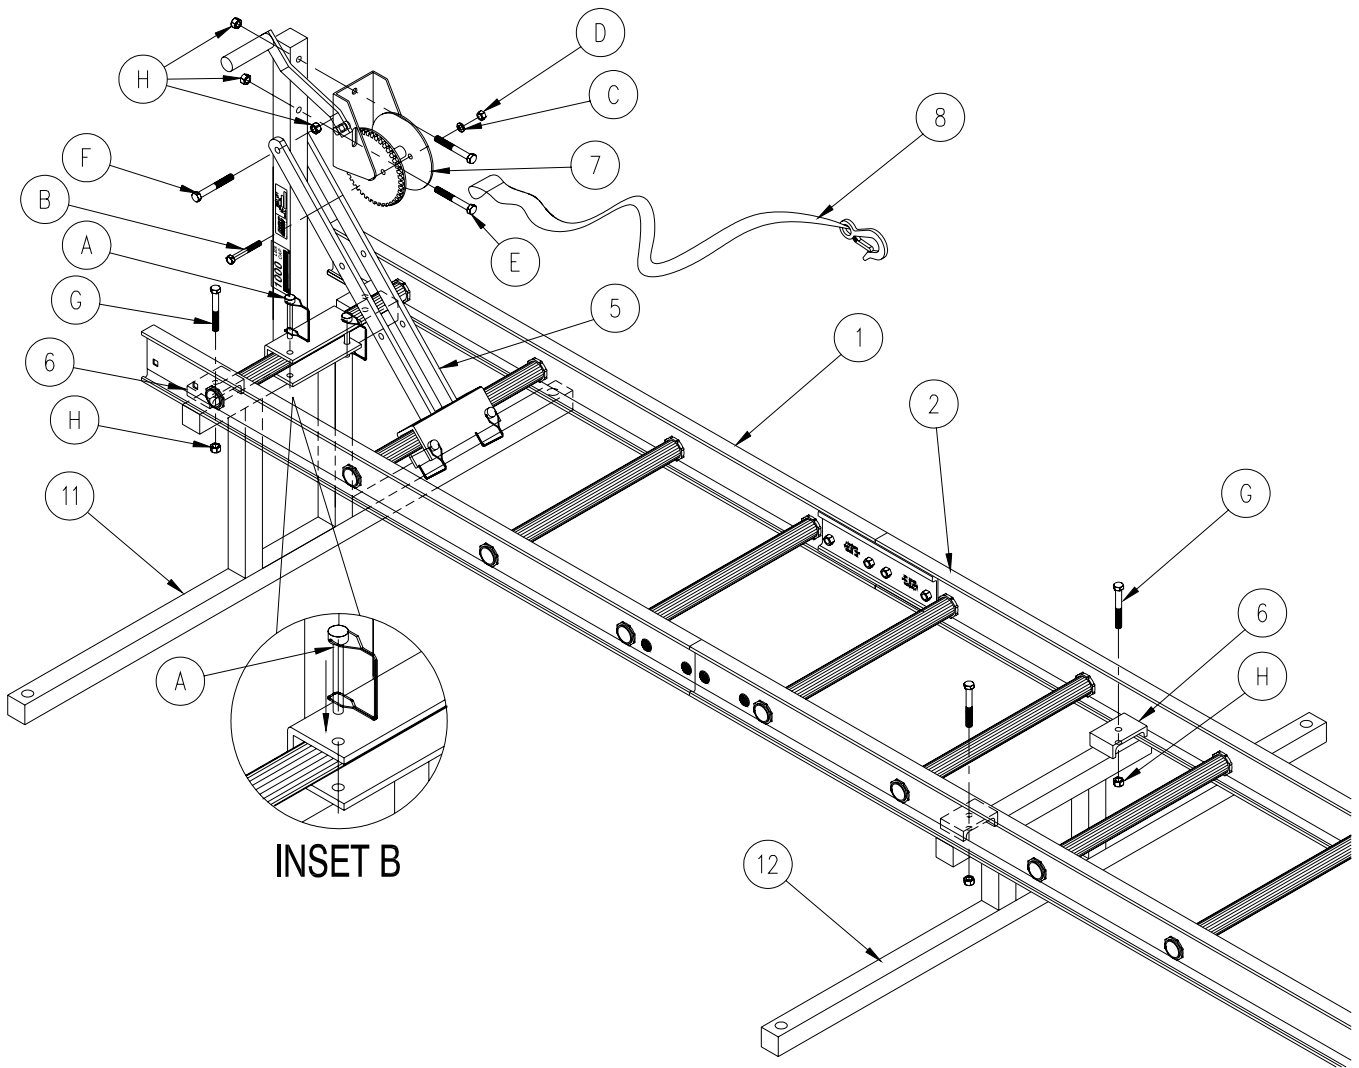

Figure 3-3.
1. Refer to **Figure 3-3**. Place winch support (11) into first track tube spreader and insert two clevis pins (A). See **Inset B**.
2. Place winch post support (5) into second track tube spreader and insert two clevis pins (A). Fasten other end of winch post support to the winch support using hex head cap screw (F) and hex nut (H).
3. Install two span support clamps (6) onto winch support bracket (11) using hex head cap screw (G) and hex nut (H).
4. Place span support (12) in position. Install two span support clamp brackets (6) onto span support (12) using hex head cap screw (G) and hex nut (H).